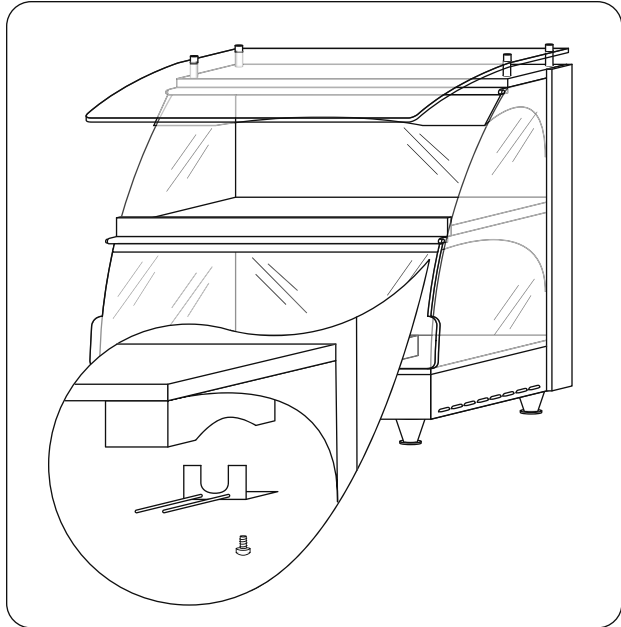

Figure 12. Wire Guard Cover
2. Remove the wire guard covering the bulb by removing one screw on cover. (See Figure 12.)